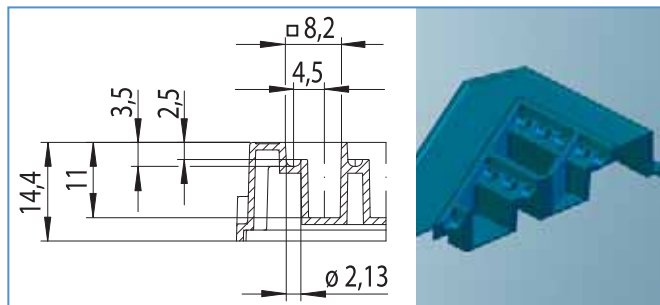
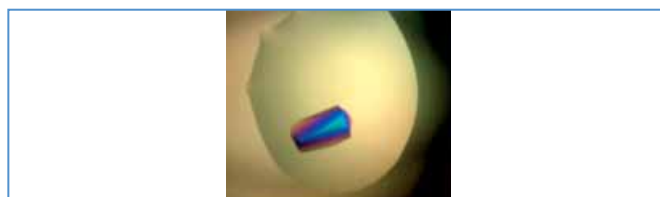

Figure 3: Well profile, CrystalQuick™ RW
Figure 4: Protein crystal in CrystalQuick™ RW, the image was kindly supplied by B. Blattmann, NCCR Structural Biology, Switzerland
LBR (low birefringence) plates are specifically designed for the use of polarised light. LBR plates for sitting drop applications are made from polyolefin which is characterised by very low birefringence in comparison with polystyrene plates (Fig. 3). Extreme transparency, high chemical resistance and low water absorption are further characteristics of LBR plates.
Figure 3: CrystalQuick™ plates in polarised light: (a) Standard versions with strong birefringence, (b) LBR versions with lower birefringence. (1) CrystalQuick™ RW (2) CrystalQuick™ SW (3) CrystalQuick™ LP
CrystalQuick™ RW (Round Wells Fig. 3, Fig. 4)